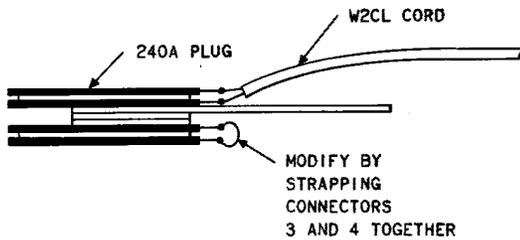

Fig. 1—Modified 240A Plug
2.01 ♦1011G dial hand test set (handset), equipped with a 2W39A cord, consisting of a W2CL cord, a 471A jack, and a modified 240A plug. (Fig. 1.)♦